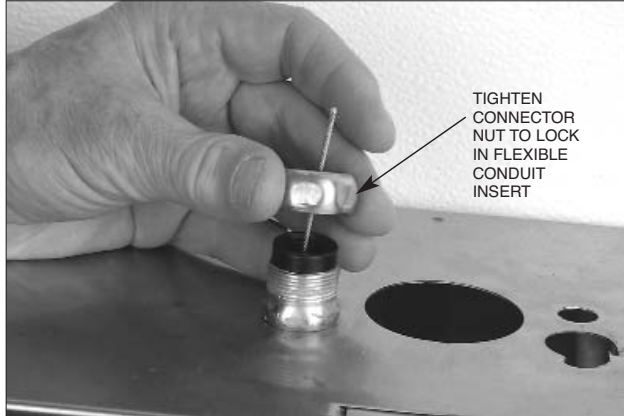

FIGURE 50
5. Tighten the nut to the connector body, locking the flexible conduit insert in place. See Figure 50.